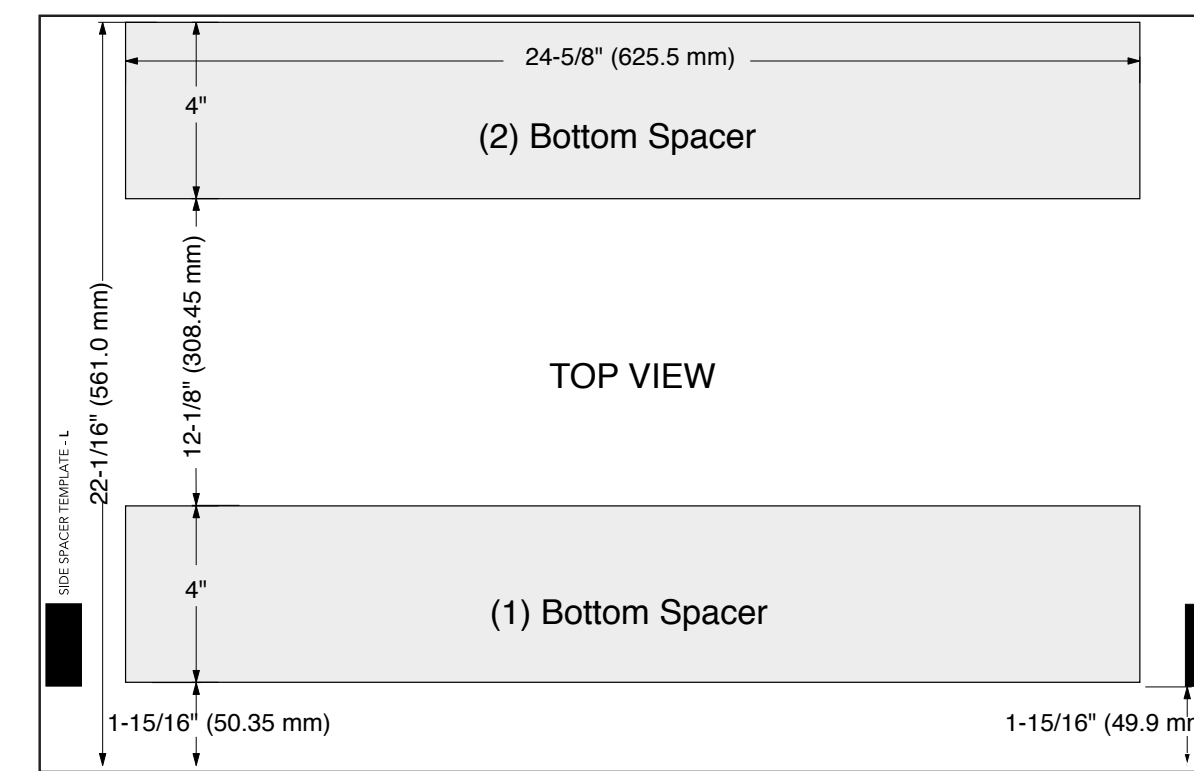

FIGURE 3
4. Cut out the Side Spacer Templates (R and L) and align the indicated edge to the corresponding Side Spacer (see FIGURE 3). Be careful to align the Floor Line to the bottom edges of the Side Spacers.